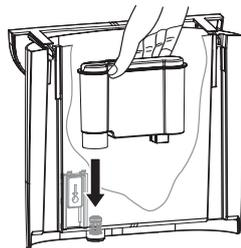

fig. 2: Inserting the water filter
7. If desired, insert the water filter into the water tank (fig. 2).